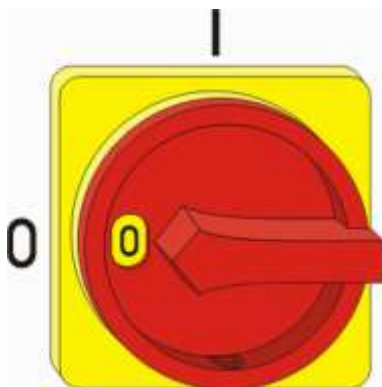

Fig.44: Main Switch
1. Turn the main switch to the "0" or "Off" position (Fig. 44).